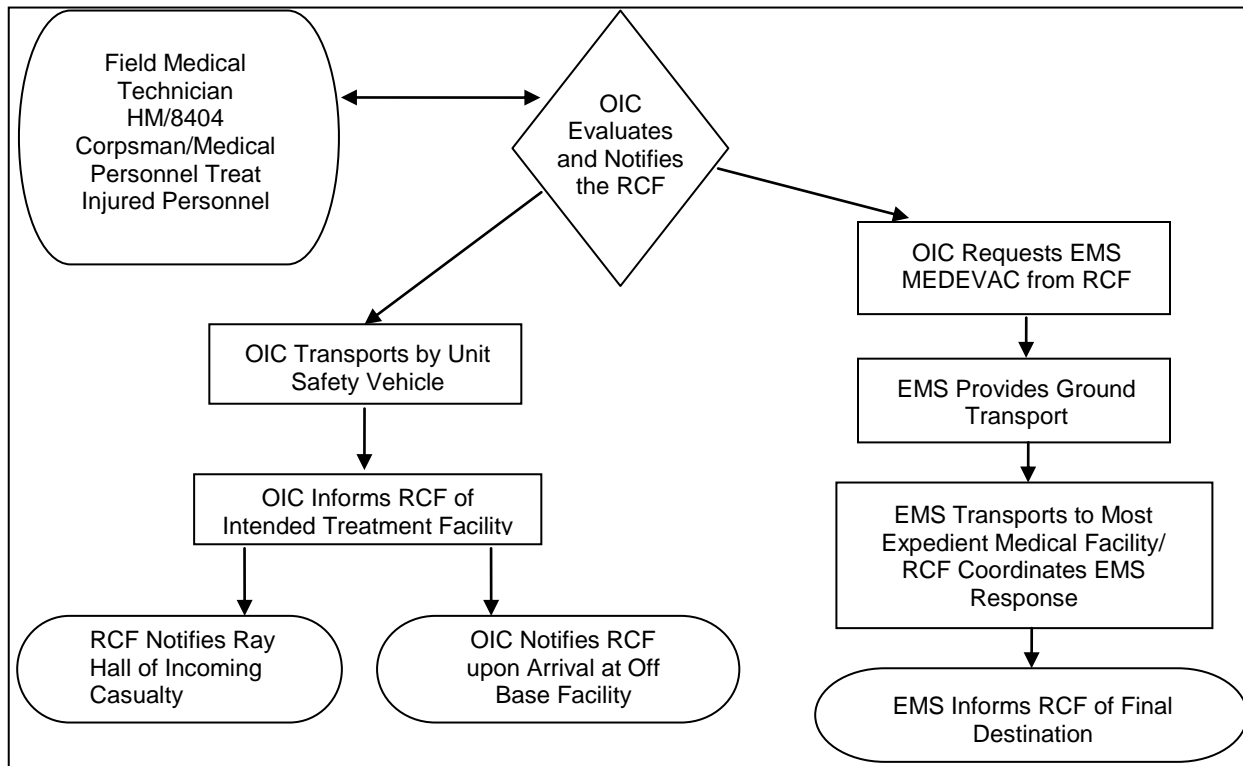

Figure 1-2 Priority MEDEVAC Decision Tree
2. Priority MEDEVAC. Figure 1-2 shows the OIC/RSO decision points during a Priority MEDEVAC.